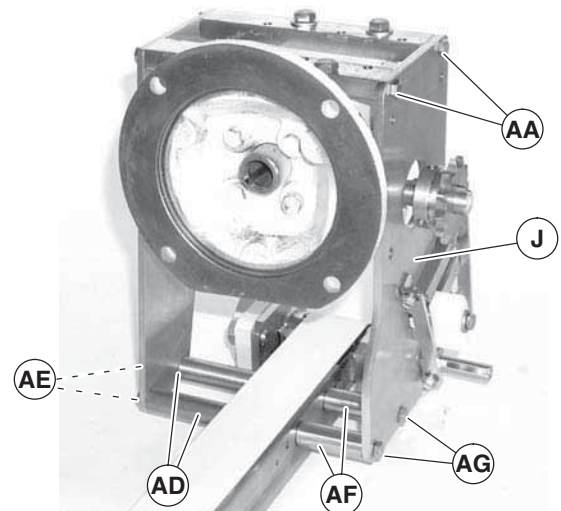

Figure 6
The lengths of spacer tubes (Figure 6, item AF) and hex head cap screws (AG) are based on conveyor width. The proper lengths are provided with the drive mounting package.
3. Loosen two screws (AA) on each side of top mount assembly (J). Attach top mount assembly to conveyor with two 1.758" (44.7mm) long spacer tubes (AD) and M6 x 65mm hex head cap screws (AE), and two spacer tubes (AF) and screws (AG). Tighten all screws to 92 in-lb (10.4 Nm).